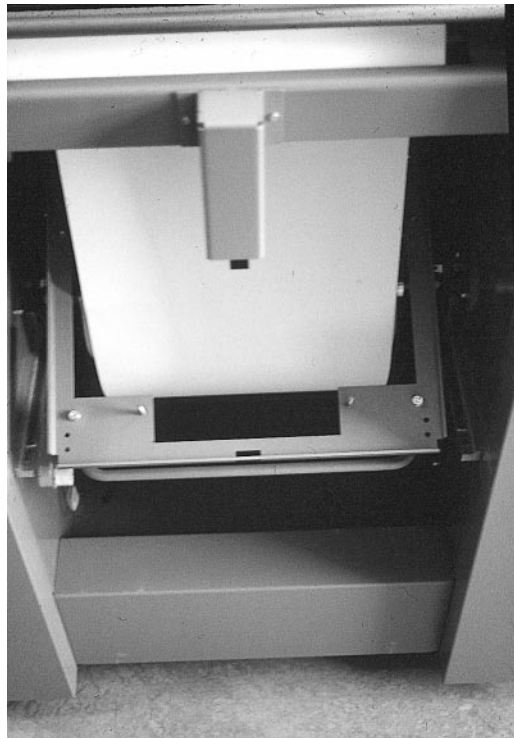

Figure 208. Two Black Screws
1. Remove the two black screws from the paper supply brake, as shown in Figure 208.